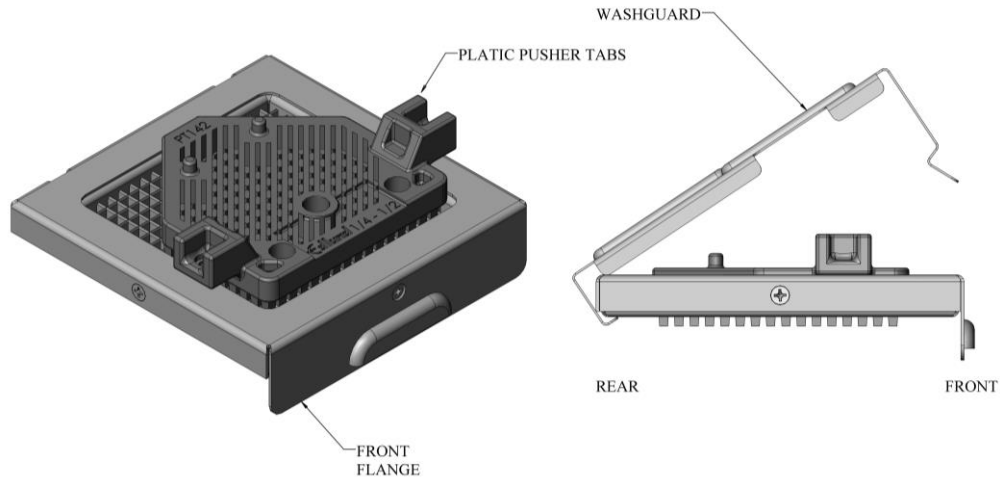

Figure 3
6. Place the plastic Pusher in the Blade Cartridge, aligning the Pusher tips with the corresponding openings in the Blade Cartridge. The Plastic Pusher tabs should be closest to the Front Flange of the Blade Cartridge (Figure 3, page 11).
7. Attach the Wash Guard by hooking the rear of the Wash Guard over the rear of the Blade Cartridge (Figure 3, page 11). Center the Wash Guard on the Blade Cartridge and rotate the Wash Guard down, aligning the Pusher Plastic Clips with the large Notches in the Wash Guard. Continue to rotate the Wash Guard down until the Front "snaps" over the louver on the front Flange of the Blade Cartridge.